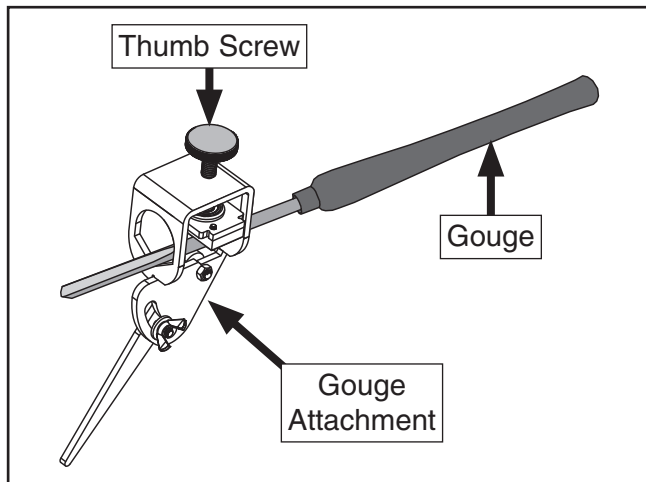

Figure 2. Gouge secured in gouge attachment.
2. Secure gouge in gouge attachment by tightening thumb screw shown in **Figure 2**.